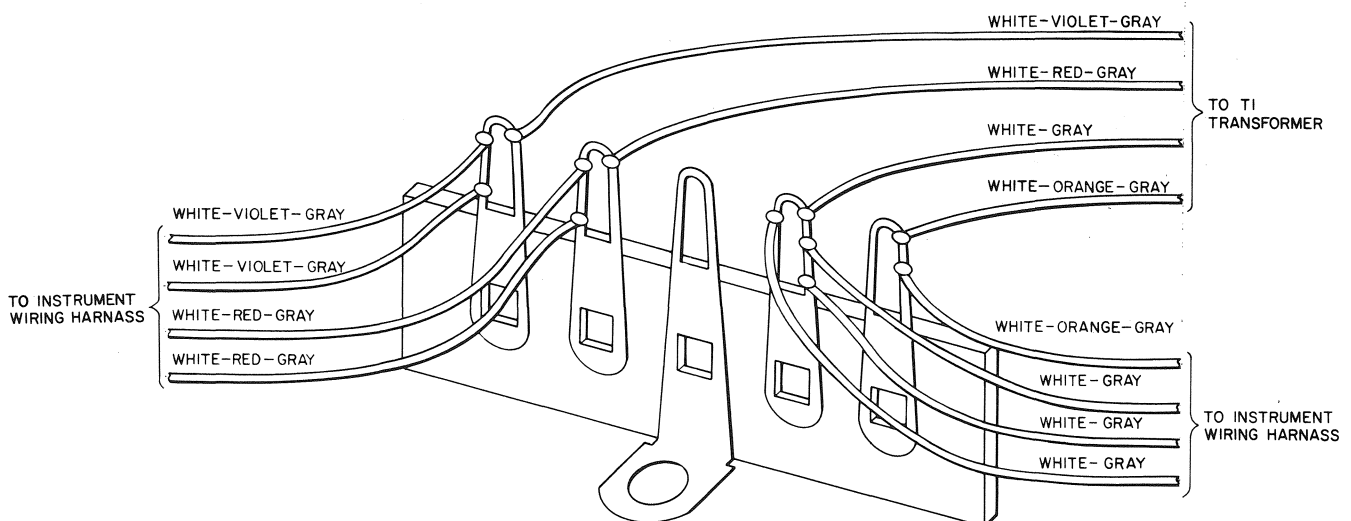

Figure 1.
18. Connect the remaining wires from T1 and the remaining wires from the instrument wiring harness to the new terminal strip as shown in Figure 1 below.